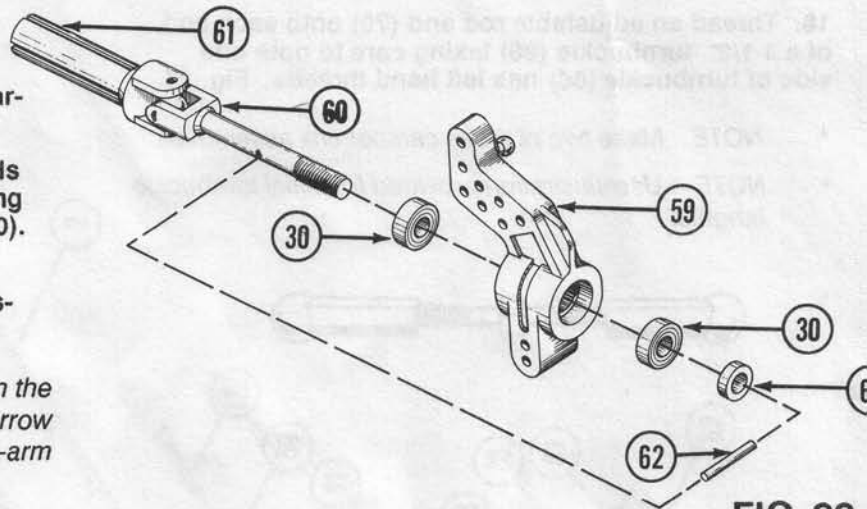

FIG. 22
5. Press two 3/16" x 3/8" bearings (30) into both sides of hub carrier (59). Fig. 22.
6. Slide rear axle (60) from step 3, through hub carrier (59). Fig. 22.
7. Slide spacer washer (67) down axle (60) towards hub carrier (59) and secure to axle (60) by inserting 1/16" x 7/16" solid pin (62) into hole in rear axle (60). Fig. 22.